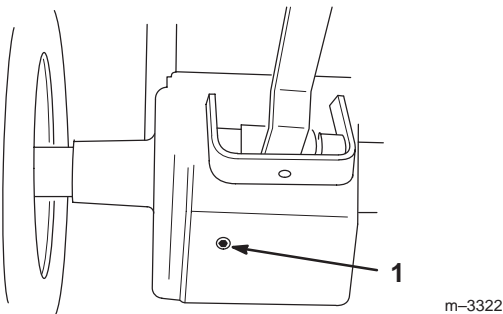

Figure 48
5. Open the drain by removing the plug (Fig. 48).